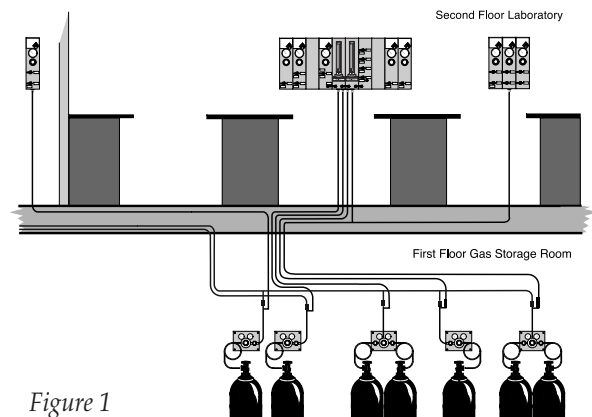

Figure 1
- **Figure 1** depicts the gas supply originating from gas cylinders located in a remote storage area. Different types of gases are piped to the laboratory and directly into the GasTrak Pro™ System panel sections. In this example, the gas inlets are positioned at the bottom of the panel. Instrument tubing is then connected directly to gas outlets on the panels.